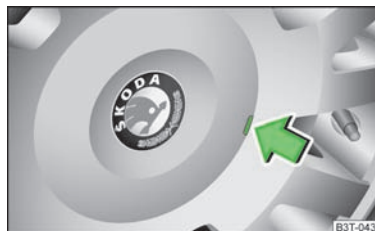

Fig. 147
- Carefully remove the wheel trim cap using the wire clamp from the vehicle tool kit » Fig. 147.